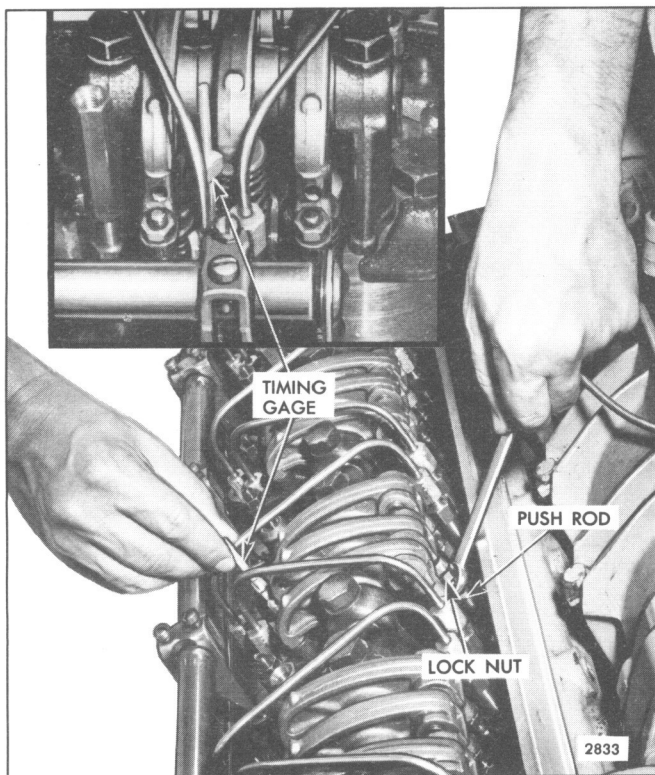

Fig. 1 – Timing Fuel Injector
3. Place the small end of the injector timing gage (refer to Table 1 or Section 14 for the correct timing gage) in the hole provided in the top of the injector body with the flat of the gage toward the injector follower (Fig. 1).